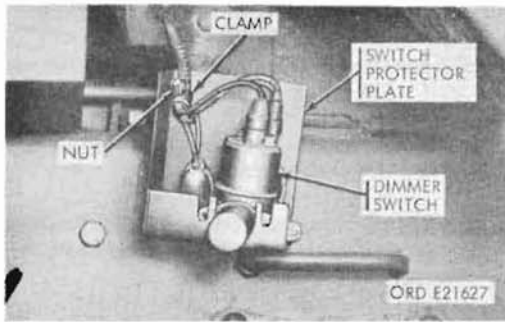
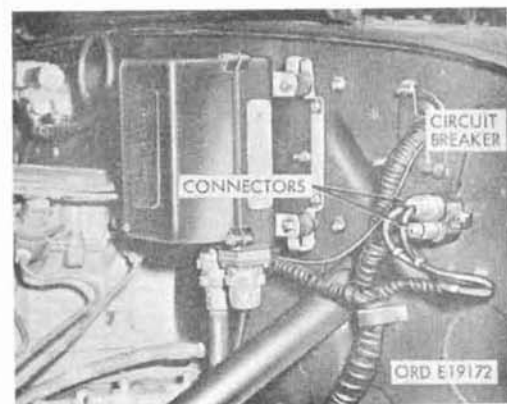

Figure 167. Dimmer switch - partially removed
Figure 169. Circuit breaker
c. Circuit Breakers (Fig. 169). The circuit breakers are mounted on the engine side of the dash panel near the generator regulator. The vehicles have a 15-ampere circuit breaker to protect the horn circuit and a breaker built into the light switch to protect the light circuits. The M48, M275, some of the M109 and M185 series trucks, and the trucks equipped with auxiliary power outlet (as supplied in a kit form), have an additional 15-ampere circuit breaker on the firewall for special purposes. The M108 and M60 trucks have a 30-ampere circuit breaker on the dash panel for the floodlight system. The shop van body has a circuit breaker (fig. 167) on the exterior front body panel.
a. Removal. Remove the two screws securing the dimmer switch (fig. 167) and switch protector to the toeboard, and remove the switch and protector. Disconnect the cables from the switch.
b. Installation. Connect the cables (16, 17, and 18) (fig. 71) to the switch. Install the dimmer switch (fig. 167) to the underside of the toeboard with two external-teeth lockwasher and cross-recess panhead screws, but do not tighten the screws. Position protector over the switch and slide the slotted side of the protector between the switch mounting bracket and the toeboard. Tighten the screws to secure the protector and switch on the toeboard.
132. Circuit Breakers (Fig. 169)
a. Removal. Disconnect the connectors (fig. 169) from the circuit breaker. Remove two screws, and remove the breaker.
b. Installation. Install the circuit breaker with two cross-recess panhead tapping screws, and install the connectors (fig. 169).